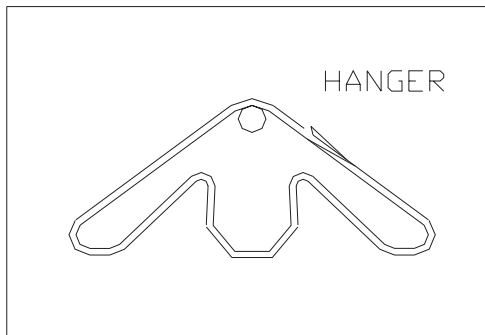

Figure 2.3.1
1. The combination tube/reflector suspension hangers (BR-HGR), shipped in the parts box located in the heater control box carton shall be sufficient to support the heater every 10 feet or 3 m. Figure 2.3.1